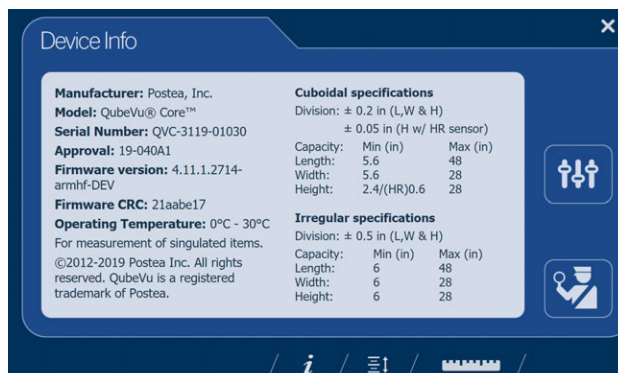

Figure 4-1. Device Information
2. The **Device Info** menu displays (Figure 4-1). For additional **Device Info** information (Section 4.2 on page 26).